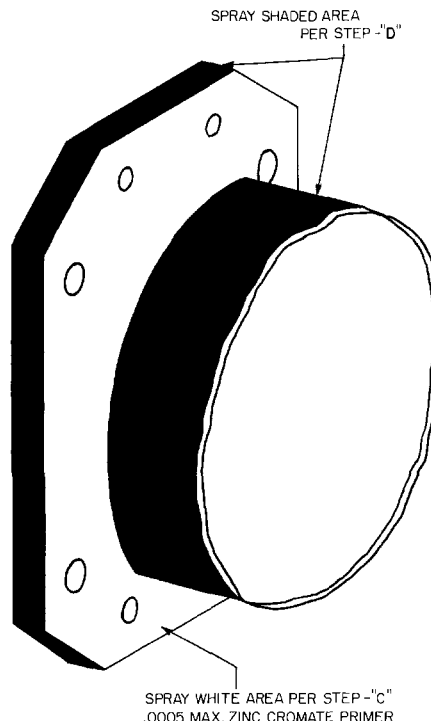

Figure 6-35. Cylinder Flange Area
c. Spray a very light coat of zinc chromate primer (.0005 maximum thickness) on the cylinder flange. See figure 6-35. If the correct amount of paint has been applied the color of the paint will be green with a yellowish tint and the metal will show through. If the paint is too thick the color will be zinc chromate yellow.
d. Mask off the flange area as shown in figure 6-35. Proceed to paint the cylinder with a Phthalate resin type enamel (AMS3125C or equivalent MIL-E-7729) properly thinned with Toluene or equivalent (AMS3180 or equivalent Federal Spec. TT-T-548).